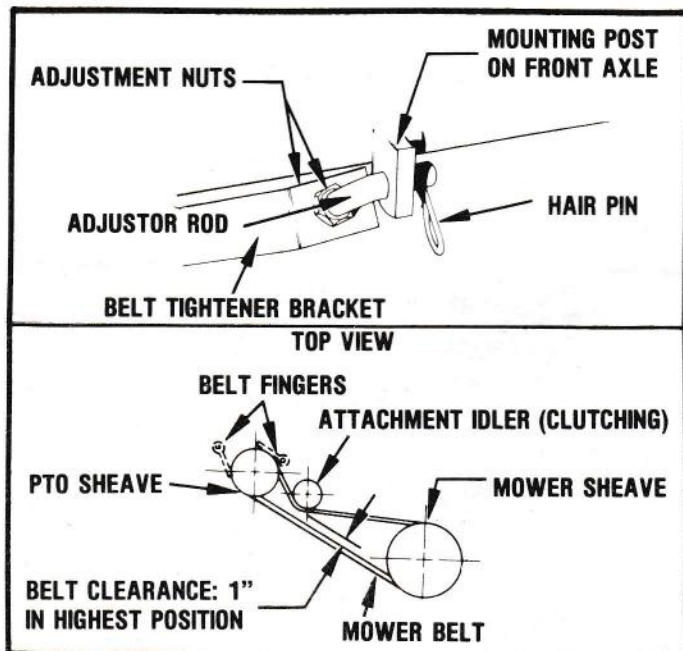

FIGURE 11
4. Adjust Mower Belt for proper center distance. See Figure 11. Adjust nuts on the adjustor rod to move mower forward or rearward. Adjust for 1 to 1-1/2 inch clearance between belt as shown in Figure 11 with mower in highest position.
If belt squeals when PTO Control is properly engaged, check adjustment of belt. If squeals continue, belt may require replacement. See Figures 11 and 13.